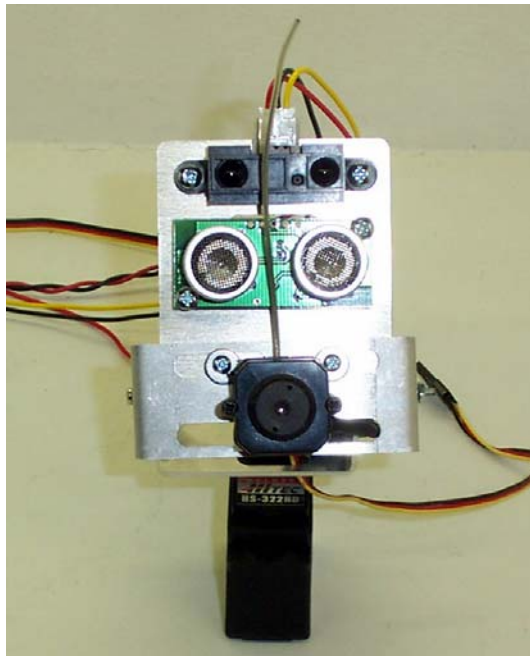

Figure 7
7. If scanners are being mounted mount the bracket as shown in Figure 7.